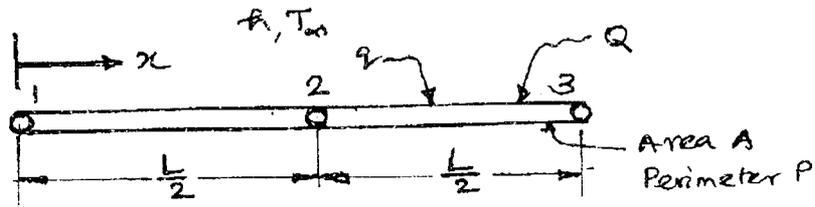

Fig.3
15. (a) Consider a three – node quadratic conduction / convection element shown in Fig.3 Derive the following for the element :